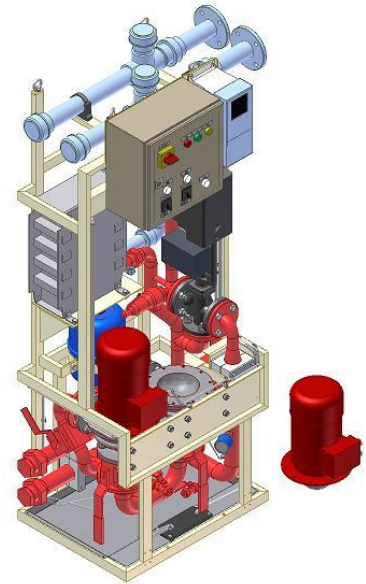

Figure 4.2-1
8. Remove the bolts and nuts from the pump motor flange. Therefore leaving the pump housing in place (Figure 4.2-1). Note that there is a pre-pressure of 1.5 bars in the system; use safety goggles.